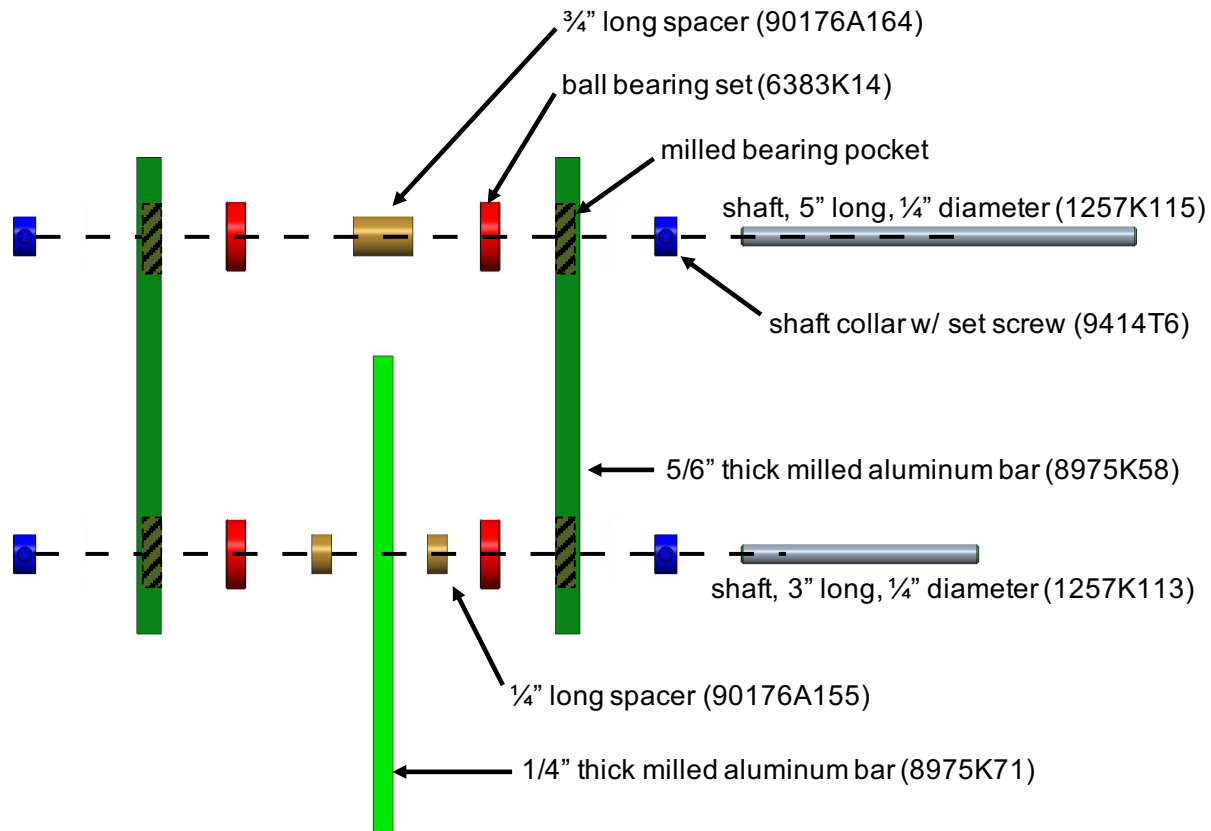

Figure 2 – An “exploded view” drawing of the double pendulum. The machine elements are labeled with part numbers from McMaster-Carr.
Please use Figure 2 and the following instructions to assemble a double pendulum. You will then disassemble the pendulum and move to a different station to perform Parts II, III, and IV.
1. Sketch Figure 2 in your lab notebook. Label the parts.
2. Assemble the double pendulum. The plastic box contains the parts shown in Fig. 2. There are enough parts to assemble two pendulums. You and your lab partner should each assemble your own pendulum. A drawing of the fully assembled pendulum can be found in Appendix A.